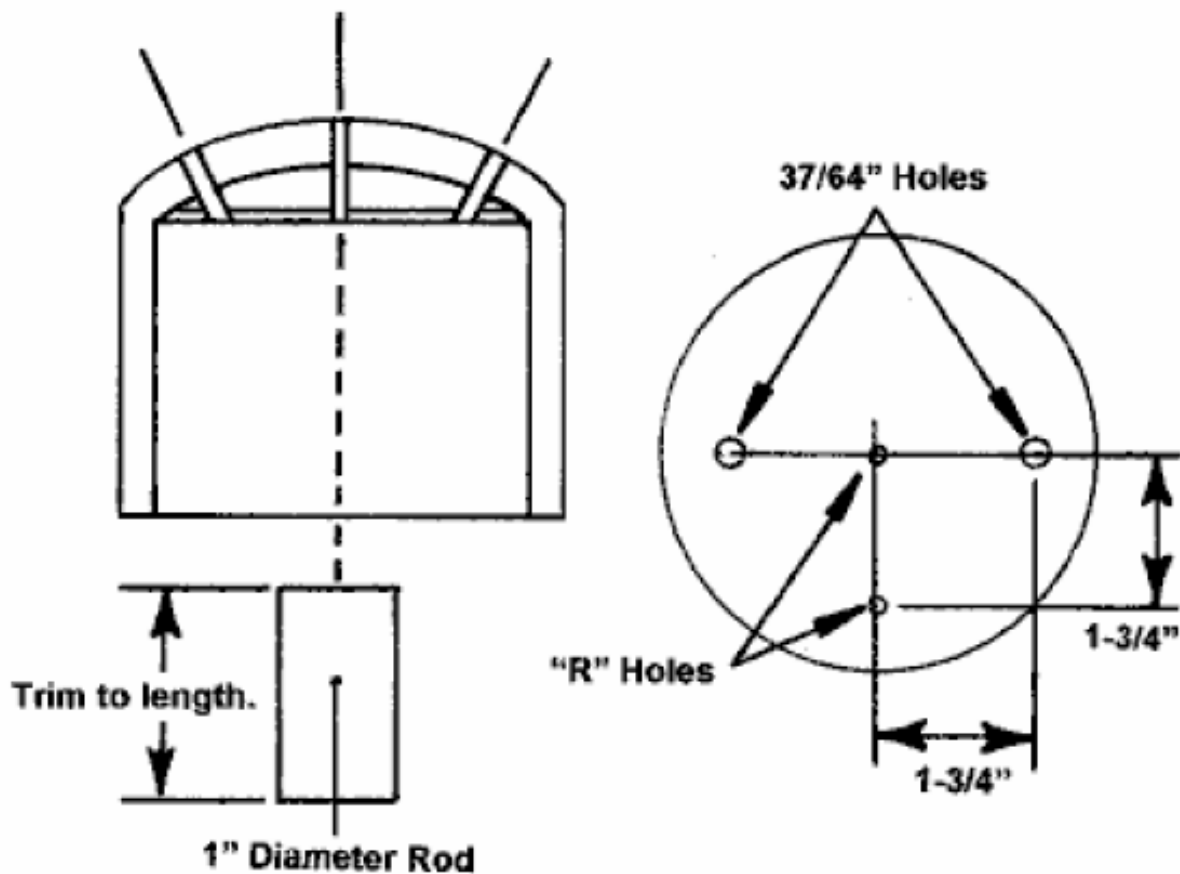

Figure 15: Unthreaded End Cap Details
1. Using a miter box or table saw to assure squareness, cut a spacer approximately 2" long from 1" diameter CPVC rod. Using an "R" size drill bit, drill a hole through the center of the rod its entire length, and parallel to its length. Also drill a hold through the center of the end cap with the "R" drill, as shown in Figure 15.
3. Temporarily thread the 35SS water level switch into the tapped hole, seating it firmly. Insert the switch power leads from inside the end cap through the drilled hole. Measure and record the distance from the inside surface of the end cap, as shown in Figure 15.
- When drilling holes in the following step 8, be sure to keep the drill bits squared with the curved outer surface of the unthreaded end cap. This places the axis of each of the three holes at an angle to the axis of the center hole as shown Figure 15.
8. Referring to Figure 15, drill two 37/64" holes through the top of the unthreaded end cap, each located 1-3/4" from the center hole in the cap. Be sure to keep the drill bit squared with the curved outer surface of the end cap.
Using an "R" size bit, drill a hole through the top of the end cap 1-3/4" from the center hole in the cap as shown in Figure 15.